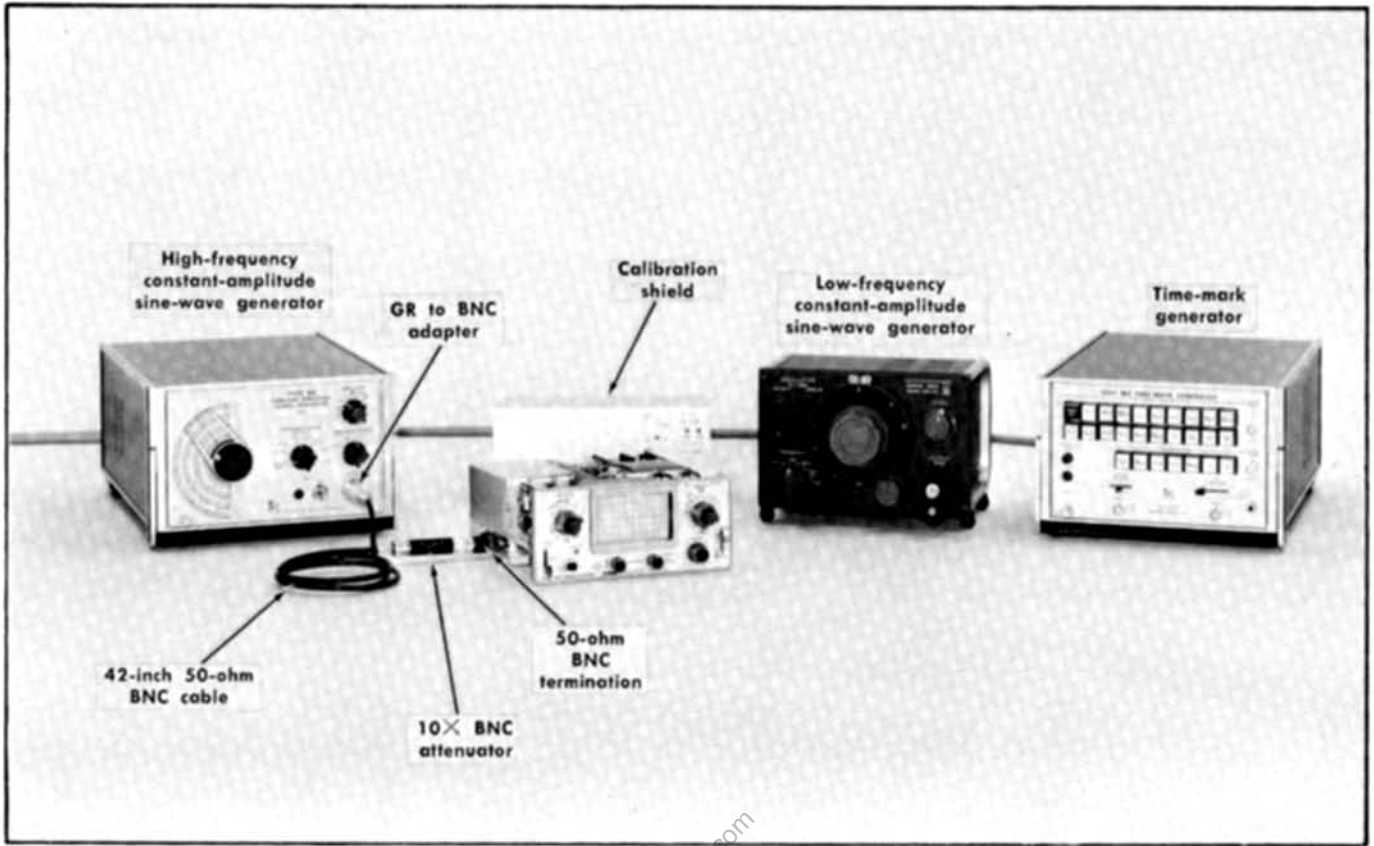

Fig. 6-13. Initial test equipment setup for steps 28 through 38.
a. Test equipment setup is shown in Fig. 6-13.